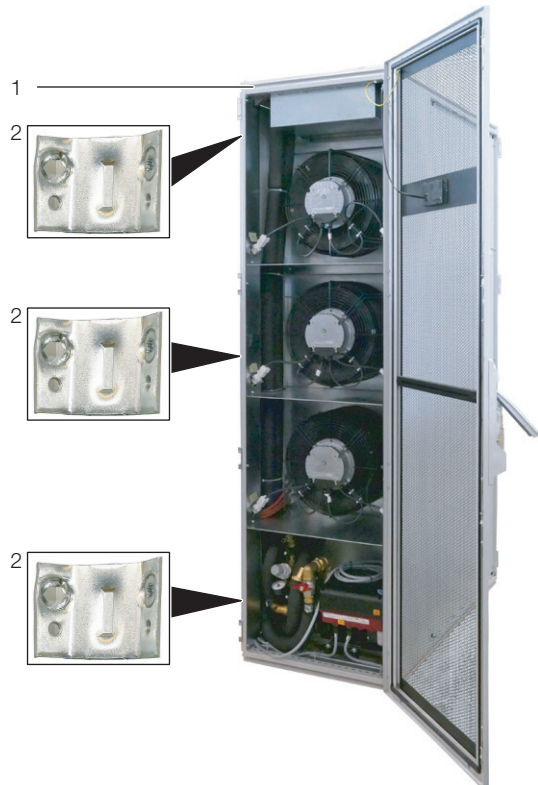

Fig. 14: Rear
- Using the corresponding assembly screws, fasten three baying connectors each (fig.14, item 2) onto the attachment points provided in the mounting strips on the front and rear of the LCP DX (fig.14, item 1).